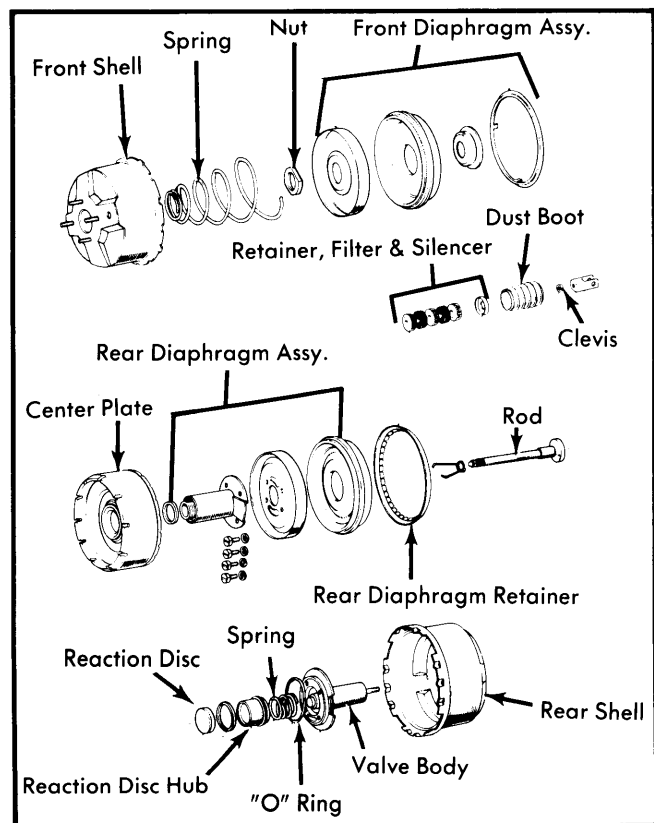
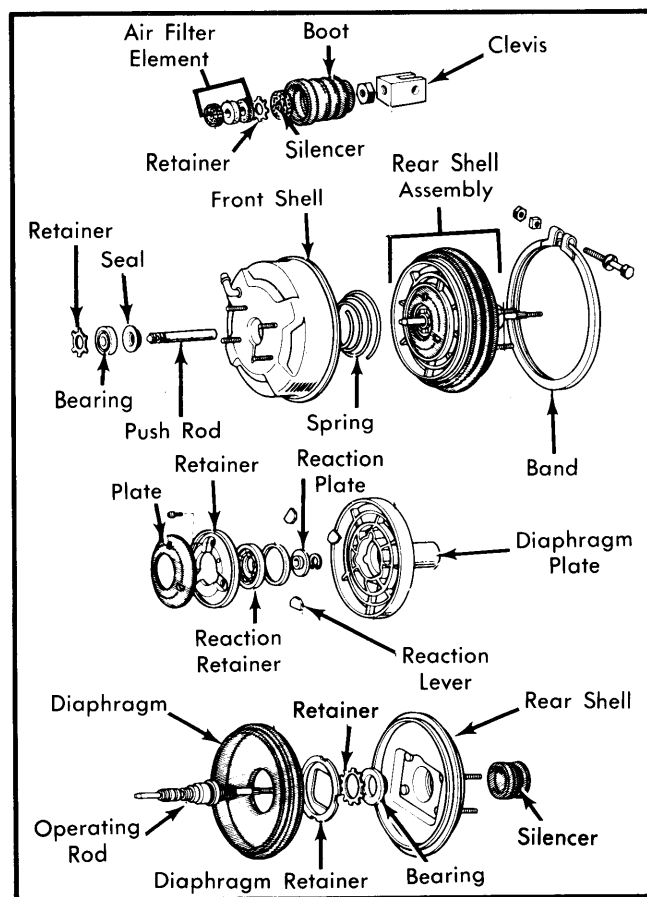

Fig. 19 Land Cruiser Power Brake Unit
Fig. 20 Exploded View of Aisin Power Brake Unit
**NOTE** – Power brake units are produced by several manufacturers and may vary slightly between model application. The following overhaul procedures can be used with minor attention to detail of specific booster being repaired. Refer to Fig. 19, Fig. 20 and Fig. 21.